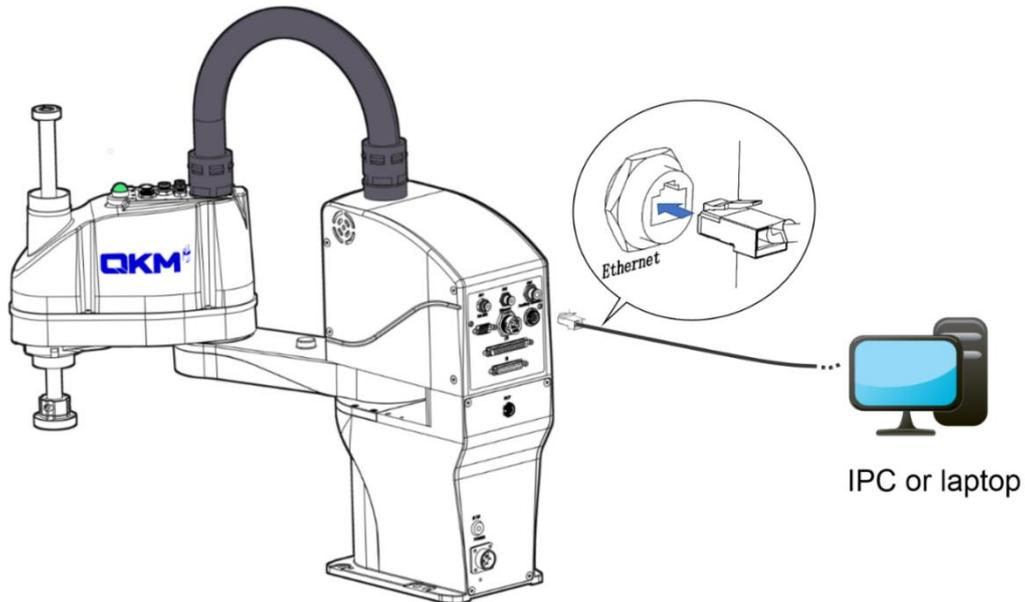

Figure 5-7 Schematic diagram of communication connection
**Step 2** Insert the other end of the network cable into the PC or IPC port as shown in Figure 5-7.